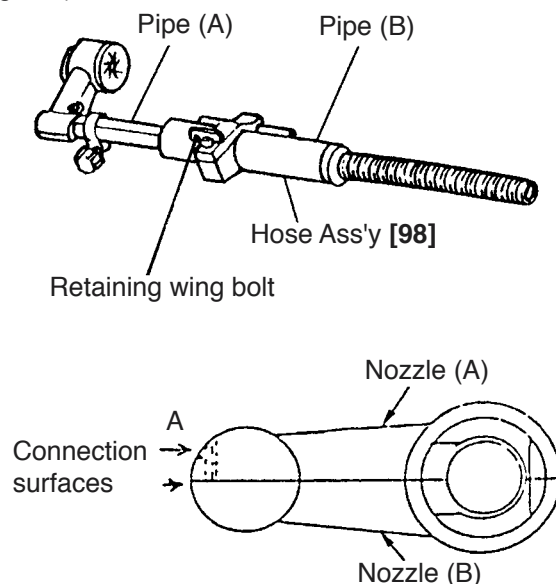

Fig. 13
- Disassembly of the dust collection adapter ass'y (Refer to Fig. 13.)
Disassemble the Rubber Cap [94] and the Nozzle Seal [93] from the nozzle portion, and remove the screw that fastens nozzle (A) and nozzle (B). While pressing the claw head of nozzle (B) in the direction indicated by arrow "A" in Fig. 13, insert the tip of a thin flat-blade screwdriver between the surfaces in front of the claw-connected portion and pry up gently to disengage the claw so that nozzle (A) and nozzle (B) can be removed from pipe (A). Next, take the stopper off from pipe (A), and remove the O-ring from the tail cap side so that the tail cap can be removed from pipe (B). Pipe (A) can then be taken out from pipe (B) by enlarging its split section after removing the retaining wing bolt.